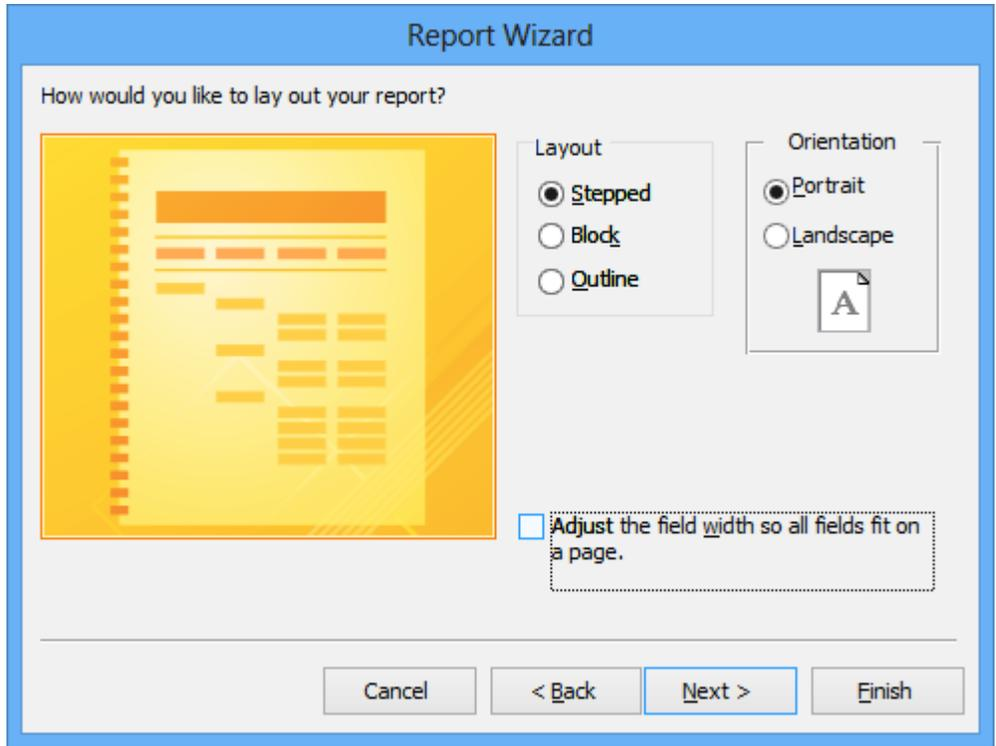

Figure 11: Uncheck “Adjust the field width so all fields fit on a page”
6. Report Layout: Select “Stepped” and “Portrait” from the option buttons in the top part of the window. Do not select the check box to adjust field widths as shown in Figure 11. Click the **Next >** button.